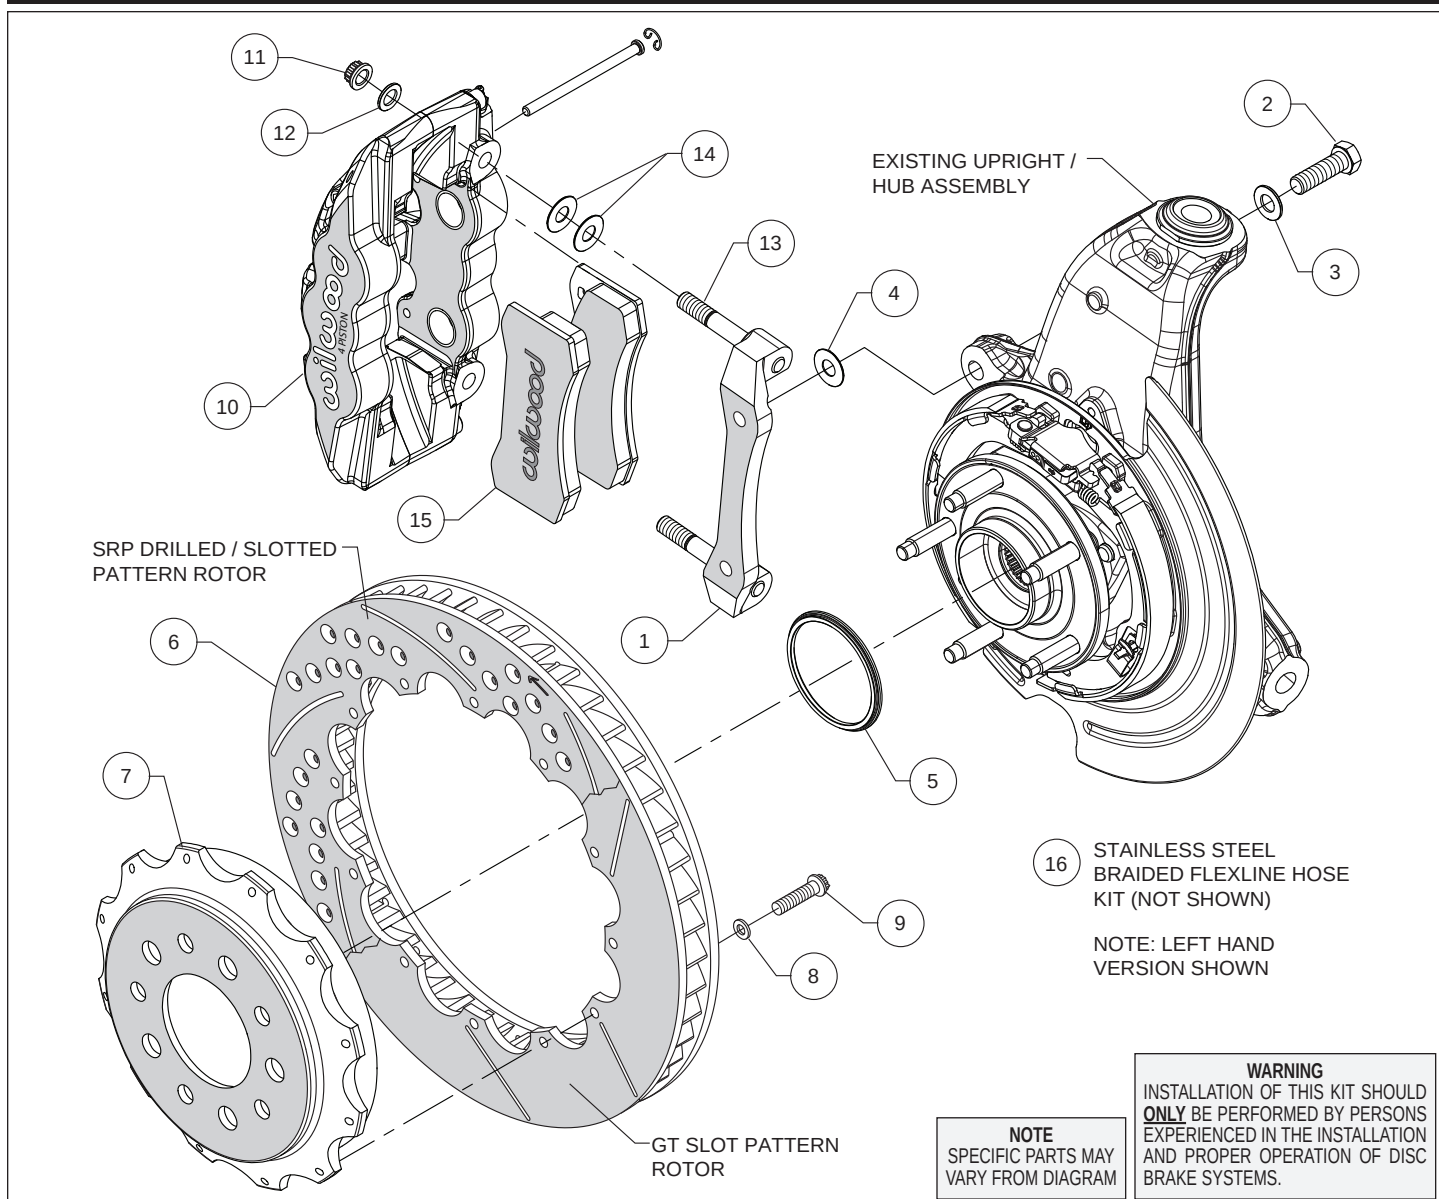
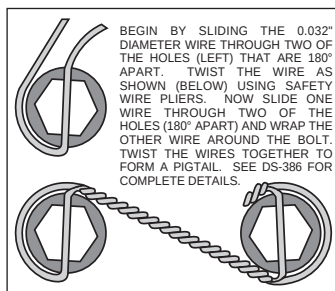

Figure 1. Typical Installation Configuration
Figure 3. Safety Wire Diagram
Assembly Instructions (numbers in parenthesis refer to the parts list and Figure 1 on the preceding pages):
- The caliper mount bracket (1) should initially be installed with clean, dry threads on the mounting bolts. Orient the bracket as shown in Figure 1, and Photo 1, and install using bolts (2) and washers (3). Initially place one .033" thick shim (4) on each bolt between the bracket and upright, Figure 1. Temporarily tighten the mounting bolts. **NOTE:** *The bracket must fit squarely against the mount bosses on the upright.* Inspect for interference from casting irregularities, machining ridges, burrs, etc. Later, after the caliper alignment has been checked, the mount bolts will be secured using red *Loctite*® 271.
- Orient the rotor (6) and the hat (7) as shown in Figure 1 and Photo 2. Attach rotor to hat using bolts (9) and washers (8). Using an alternating sequence, apply red *Loctite*® 271 to the threads, and torque to 140 in-lbs. For an added measure of security, the bolts may be safety wired using standard 0.032 inch diameter stainless steel safety wire as shown in Figure 3. Please refer to Wilwood's data sheet DS-386 (available at www.wilwood.com/Pdf/DataSheets/ds386.pdf) for complete safety wire installation instructions.
- NOTE:** *This kit contains distinct right and left hand calipers. The calipers must be mounted with the bleed screws pointing upward.* Lubricate the caliper mounting studs (13) with lightweight oil. Initially place two .030" thick shims (14) on each stud as shown in Figure 1 and Photo 5. Mount the caliper (10) onto the bracket (1) using lock nuts (11) and washers (12), Figure 1. Temporarily tighten the lock nuts and view the rotor through the top opening of the caliper. The rotor should be centered in the caliper, Photo 6. If not, adjust by adding or subtracting shims (4) between the bracket and the upright. Always use the same amount of shims on each of the two mounting bolts. Once the caliper alignment is correct, remove the bracket mounting bolts (2) one at a time, apply red *Loctite*® 271 to the threads, and torque to 60 ft-lb.
- Remove the two pad retaining pins from the caliper (10) by carefully popping out the pin retaining clips and sliding out the pins. Insert the brake pads (15) into the caliper from the bottom, Figure 1 and Photo 7. With the friction material facing the rotor, secure the brake pads in place with the pad retaining pins and clips, Photo 8. Reinstall the caliper onto the caliper mounting bracket and temporarily tighten the lock nuts. Check that the top